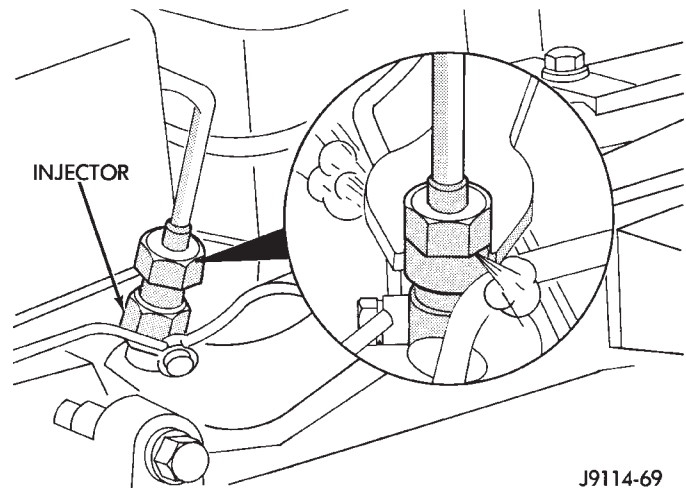

Fig. 19 Bleeding High-Pressure Fuel Line—Typical FUEL INJECTION PUMP TIMING
(1) Loosen the high-pressure fuel line fitting at the injector (Fig. 19).
(2) Crank the engine until all air has been bled from the line. **Do not operate the starter motor for longer than 30 seconds. Wait 2 minutes between cranking intervals.**
(3) Start the engine and bleed one injector at a time until the engine runs smoothly.